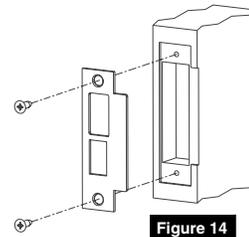

Figure 14
1. Install strike using shorter 3/4" strike mounting screws. If strike box is needed, insert between strike and door frame. (Figure 14)